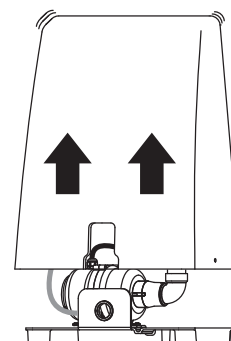

Figure 4
- 3.2 Retirer le couvercle de la base du module. (Fig. 4)
- 3.2 Remove cover from above the unit's base (Fig. 4)